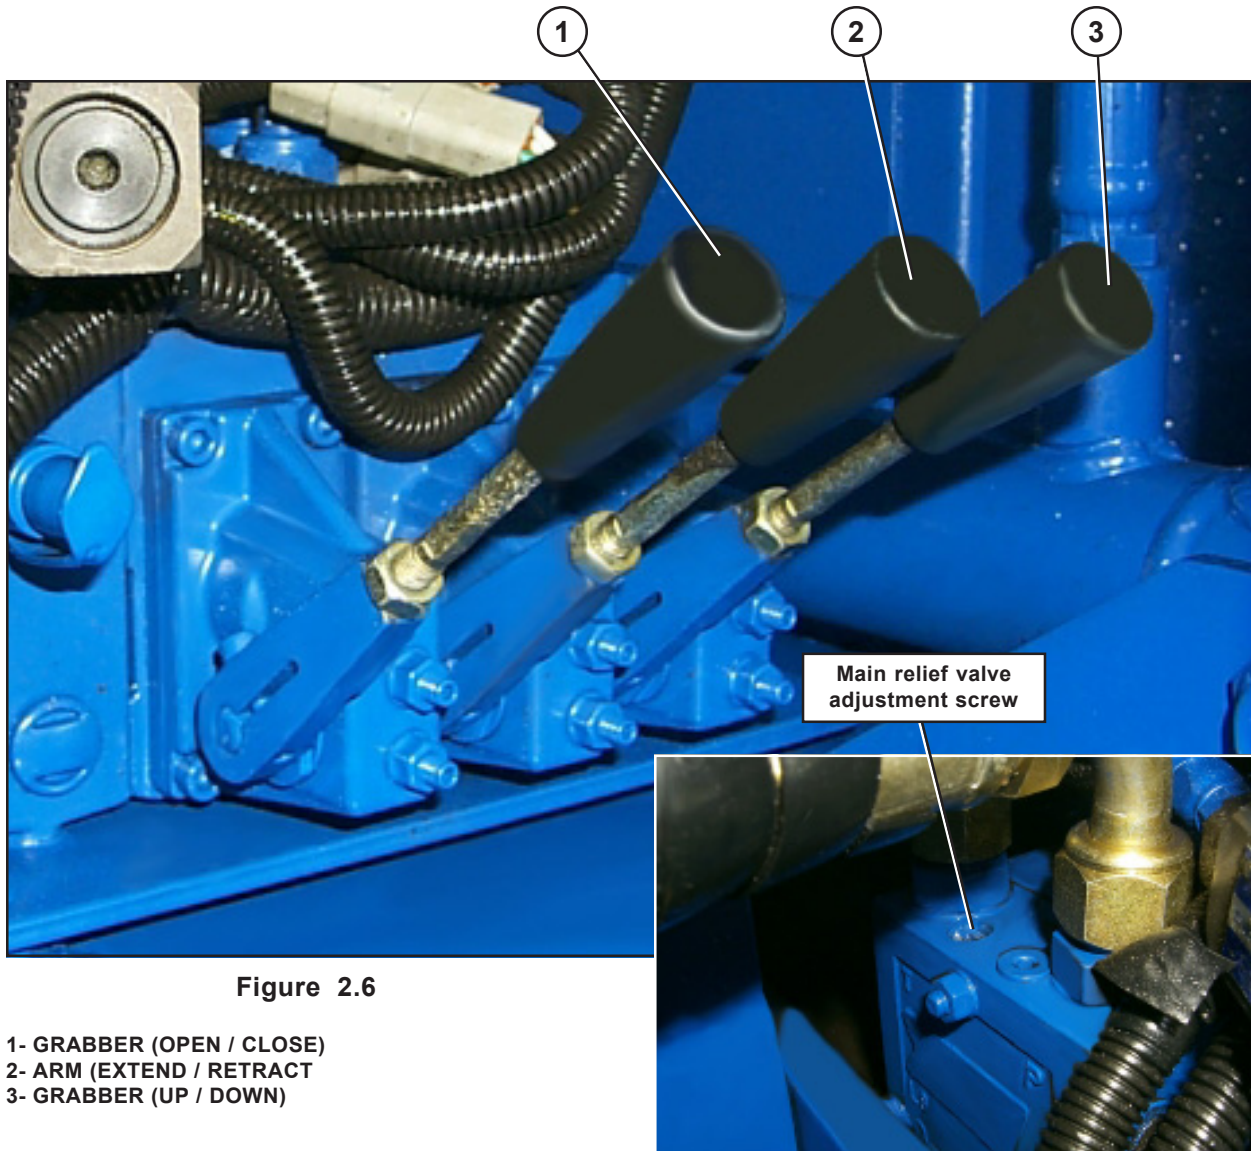
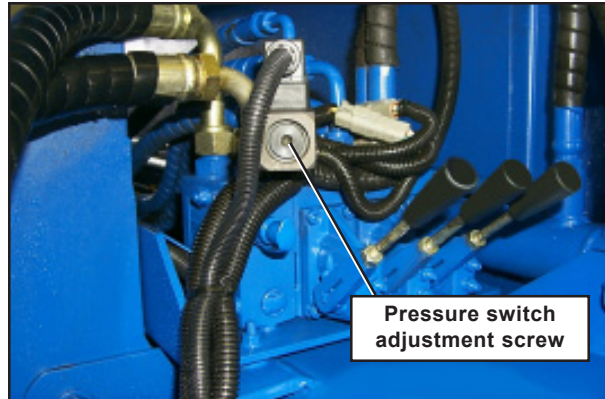

Figure 2.6
Figure 2.13
The lockout/tagout procedure explained in section 1.5 of the General Maintenance section will apply each time maintenance has to be done on the vehicle. Also, refer to the hydraulic pressure table to adjust each function of the arm. Make sure to identify all function levers on the valve and its adjustment screw before performing the procedure (see figure 2.6).
8. Close the grabber using the first lever on the left-hand side of the valve (Figure 2.6).
9. Raise the grabber arm half way up (Figure 2.13) using lever no.:3 (refer to Figure 2.6).